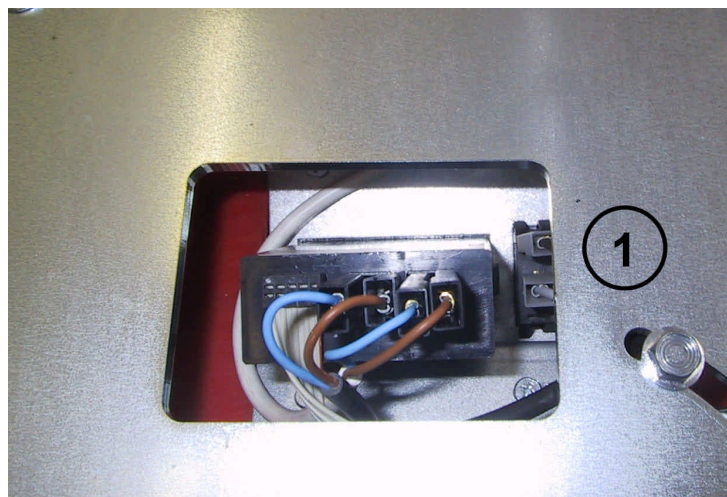

Figure 14
The Master Unit and the Light Switch are accessible through the opening marked with “1” in Fig. 14. The Master Unit is snap fitted on the metal support. To replace it, disconnect the Temperature Probe (I) (85) with black sheathing, the Evaporator Probe (H) (84) with white sheathing and the connection cable to the Power unit. The Light Switch is snap fitted too. To replace it, remove the two wires connected.